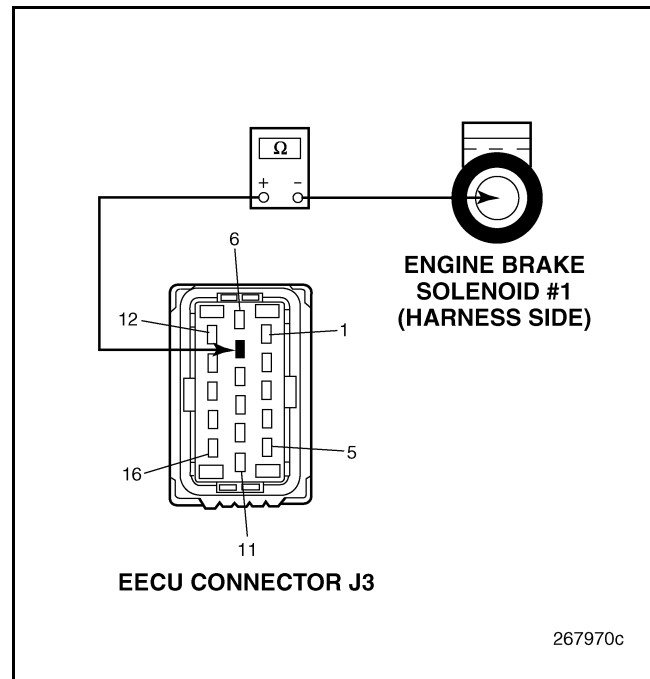

Figure 426
4. Check for continuity between EECU harness connector J3, pin 7 and the terminal of the Engine Brake Solenoid #1 harness connector (see Figure 426).